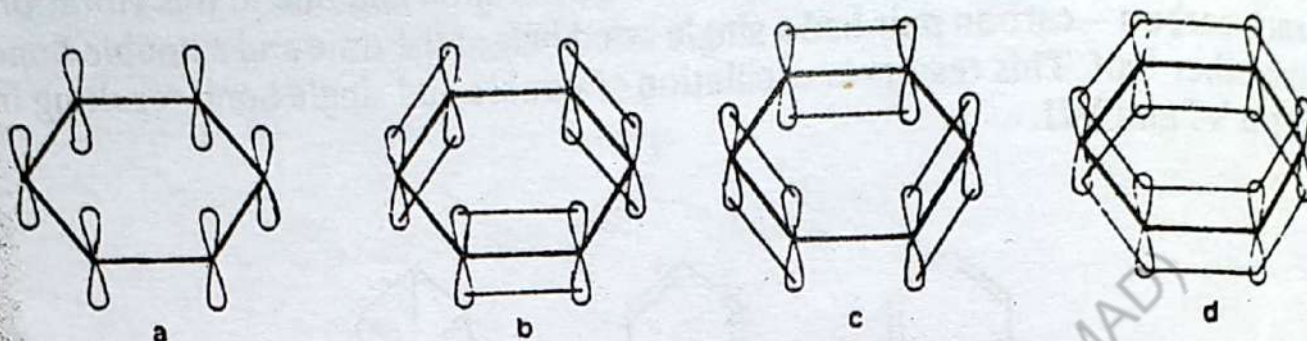

Fig. 7.7
carbon atom. These six $2p_z$ electrons or orbitals on each carbon atom are perpendicular to the plane of the ring and parallel to each other as shown in figure 7.7 (a).
The electrons in these p -orbitals can be paired in two ways (as shown in figure 7.7 b,c) and since the carbon-carbon bond lengths are all 1.39 \AA , each orbital overlaps its neighbour equally and, therefore, all the six can be regarded as forming a single molecular orbital (M O) embracing all the six carbon atoms as shown in figure 7.7 d.
Modern Representation of Benzene Structure:— The molecular orbital representation of benzene as shown in figure 7.7 a and d are useful for understanding the high stability of the benzene ring but inconvenient for normal use. Two symbols are at present commonly used to represent the benzene molecule. These are: (1) A regular hexagonal with an inscribed circle and (2) A hexagonal with alternate single and double bonds. These are shown in Figure 7.8.
Electrophilic Substitution Reactions:— If we look again at the figure 7.7 a, d we will observe that there is a cloud of π -electrons above and below the